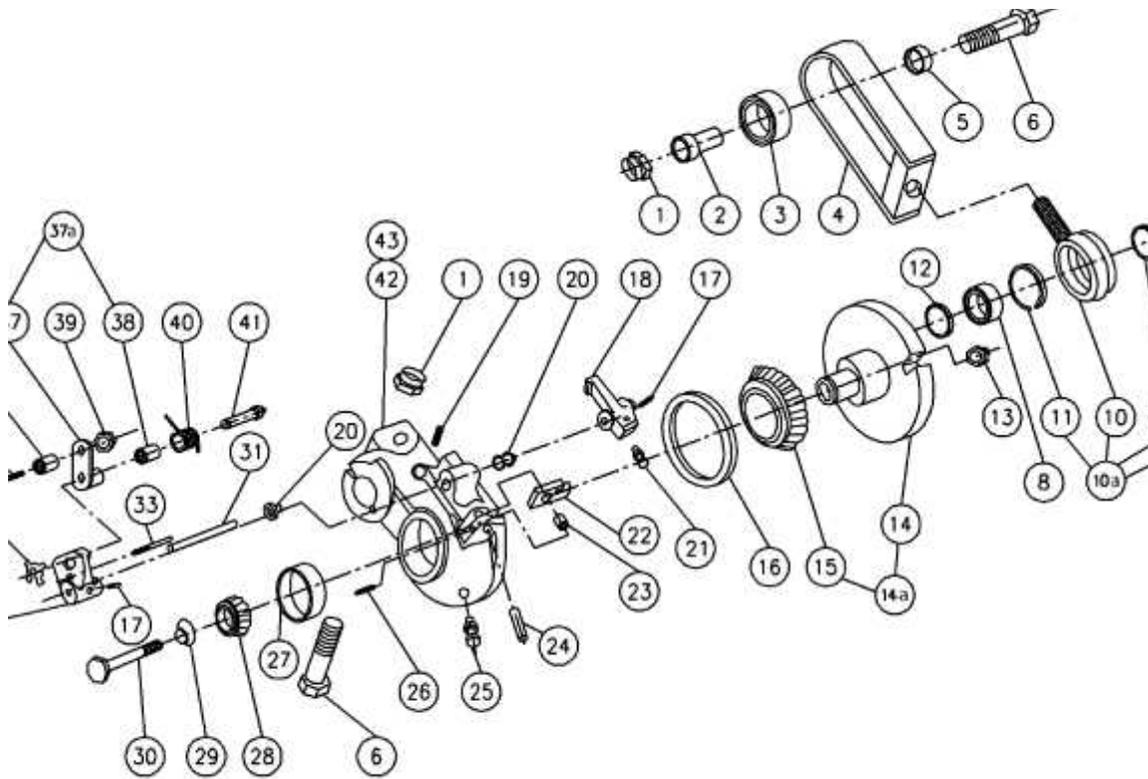

Figure 3
7. Figure 3 is of what component?
8. In Figure #3, item 4 is called the clevis. What is it's function.